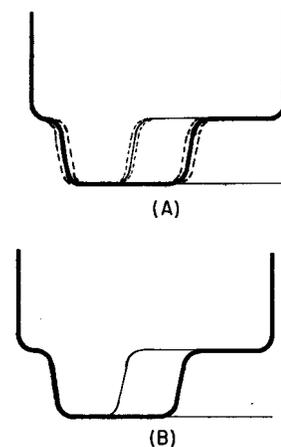

Fig. 13 – Horizontal Sync Pulse Interval
trol to expand a 5 microsecond horizontal sync pulse to 2 inches at the base. The pattern obtained should be like that shown in the lower figure (B) of Fig. 13 at all signal amplitudes listed above. If the pattern appears like that of the upper figure (A) and cannot be cleared up by means of the SYNC control, the oscilloscope does not synchronize properly and should be returned for repair to the video equipment maintenance center. Slow drift is not considered to be jitter. Due allowance must also be made for jitter in the test signal.